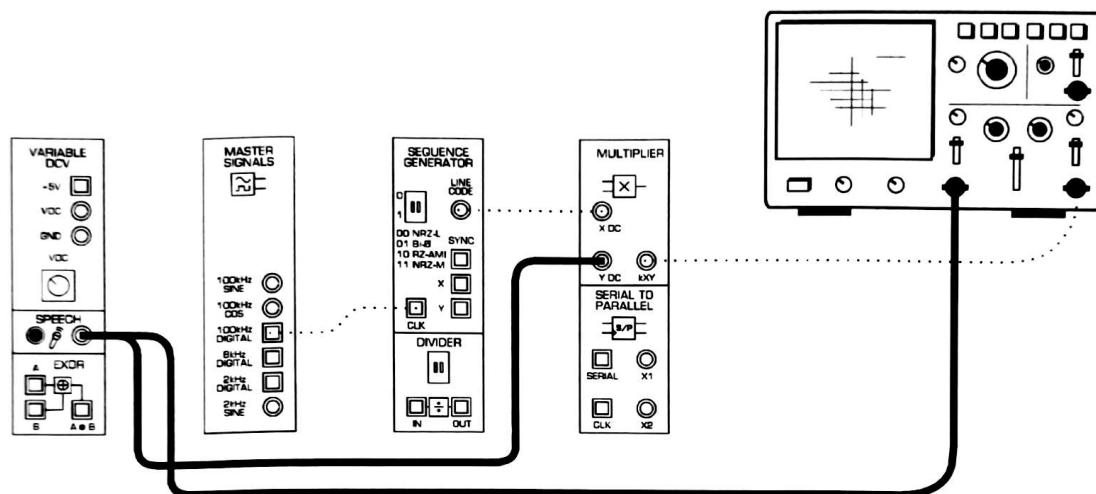

Figure 3
12. Connect them to the Speech module's output as shown in Figure 3 below.